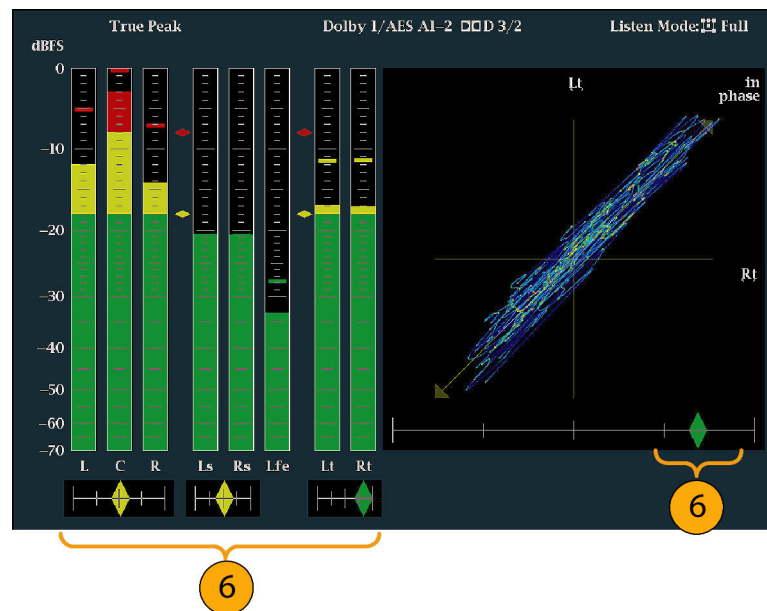

Figure 83: Checking for phase correlation
6. Check for Phase correlation of the signals, noting the following: (See Figure 83.)